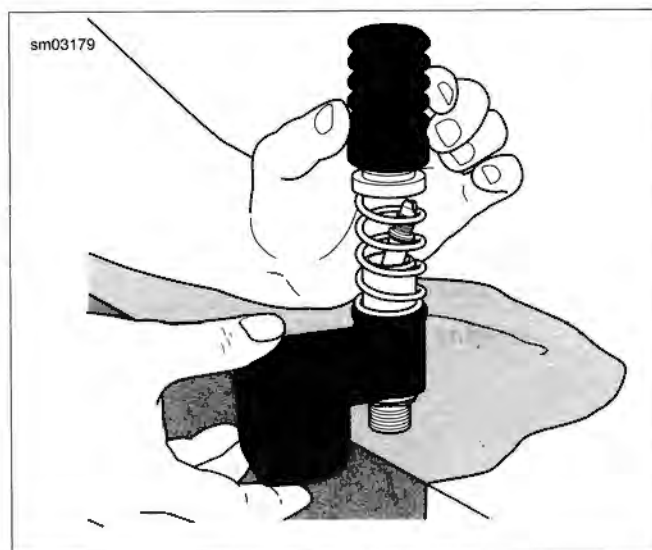

Figure 2-51. Master Cylinder Assembly
8. Wipe bore of reservoir (18) adapter with D.O.T. 4 BRAKE FLUID.
9. Insert cartridge body (2) into reservoir adapter. Align tab on adapter with slot on threaded end of cartridge. Use hand pressure only. Cartridge body is fully installed when reservoir adapter contacts large retaining ring.
10. See Figure 2-51. Stand master cylinder assembly upright on banjo sealing surface. For best results, suspend reservoir over edge of table. Be sure to lay down a clean shop cloth to protect the sealing surface from damage.